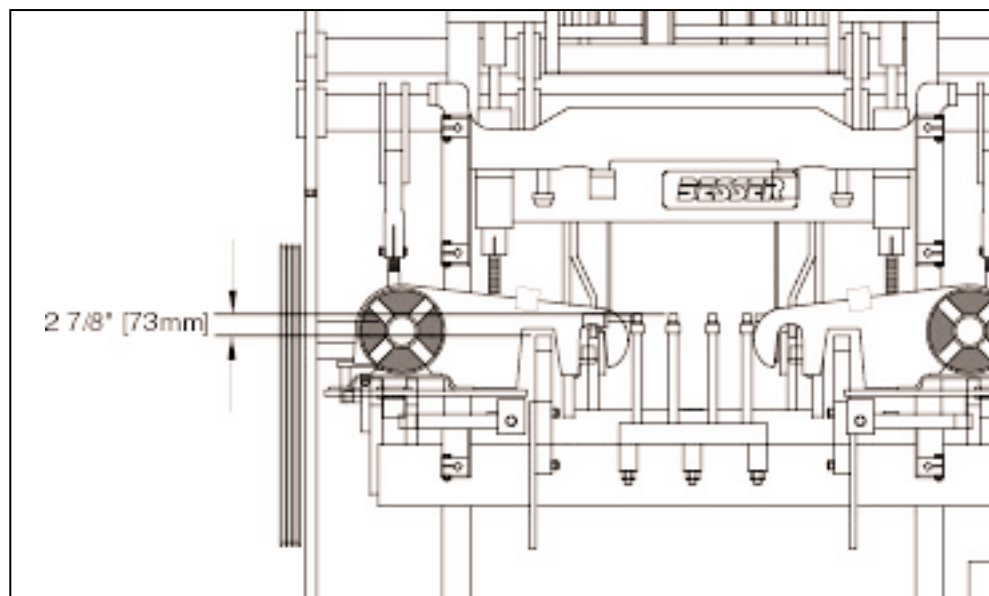

Figure 4.13 PALLET RECEIVER RUBBERS POSITION.
4.1.6 Adjust the pallet receiver frame so that the pallet receiver rubbers are **2 7/8" [73mm]** above the mold throat (see figure 4.13).